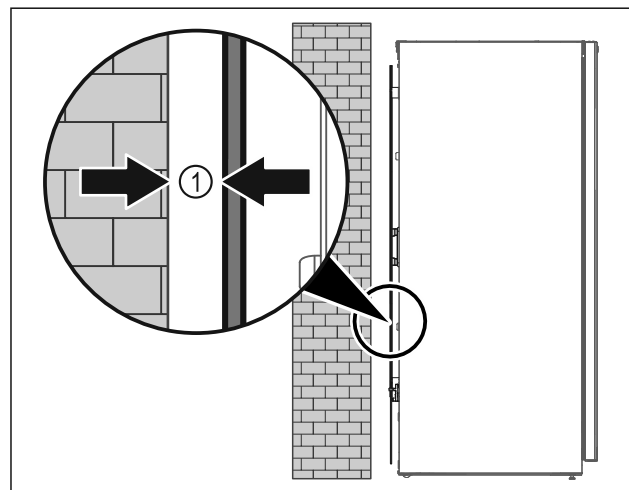

Fig. 50
- Set up the appliance either free-standing or directly against a wall at a minimum distance of 5 mm Fig. 50 (1).